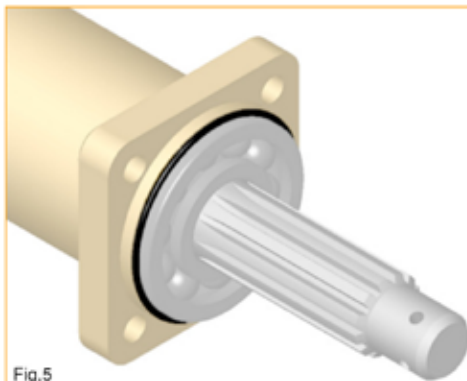

Fig.5
- Install the O-ring (Pos:9, Fig.1) on the wheel bearing as shown in the picture Fig.5.